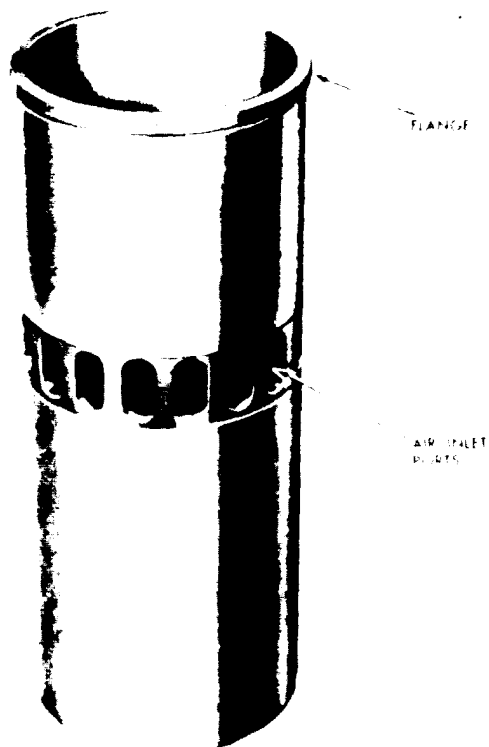

Figure 11B-129. Cylinder Liner
- B. With the tool in place, strike the upset head on the upper end of the puller rod a sharp blow with the puller weight, thus releasing the liner (see Figure 11B-130).